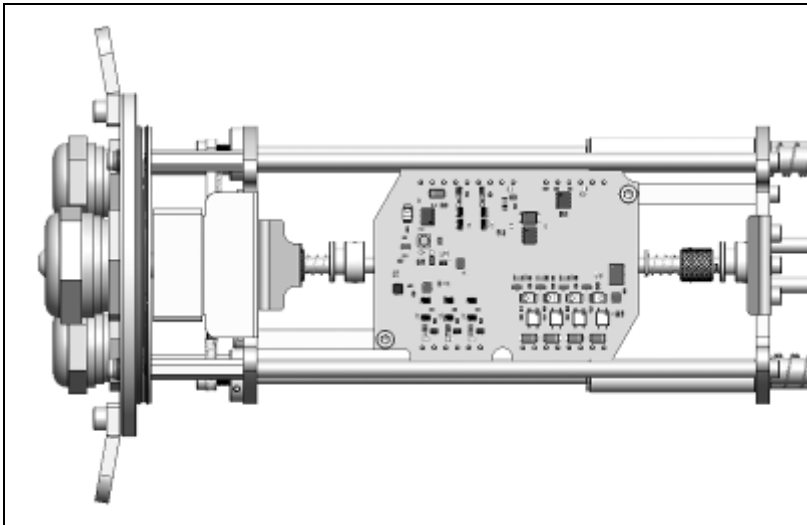

Figure 44: Mounting of the industrial PIF (top view)
5. Fix the industrial PIF with the screws (M3x5) as shown in **Figure 44**.